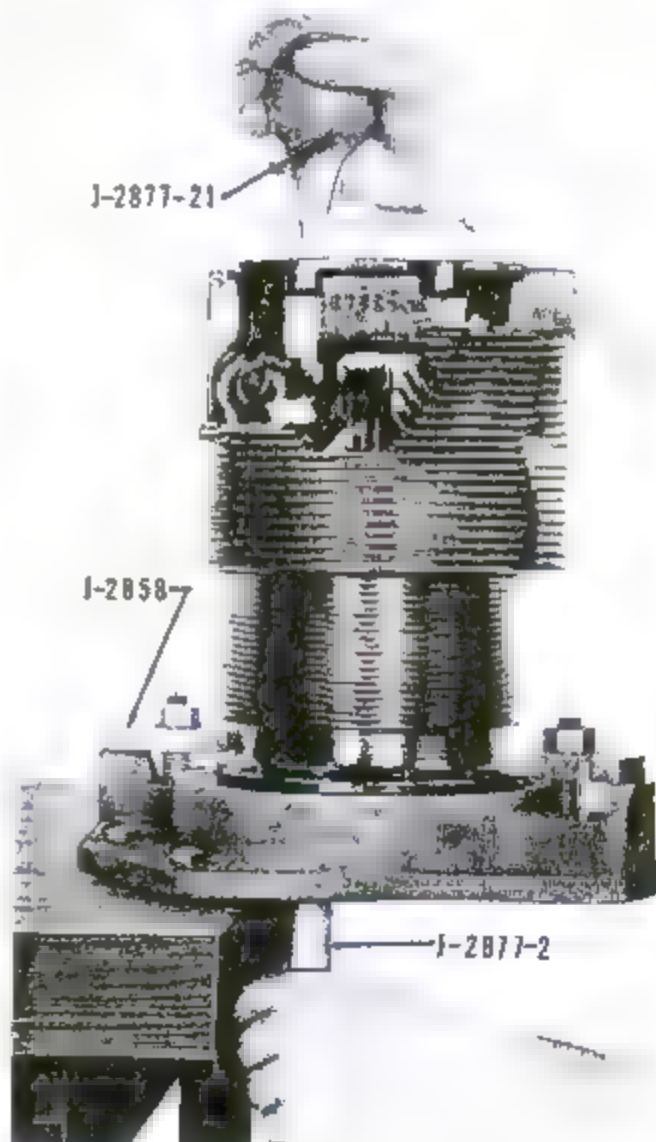

Figure 5-9. Removing Valve Seats
b. Remove the cylinder from the oven, and place it in the upright position on the Group 4 cylinder and valve holding fixture, with the valve holder removed. The fixture must be so supported that the valve seat removing tool may be inserted through the opening in the base. (See figure 5-9.)